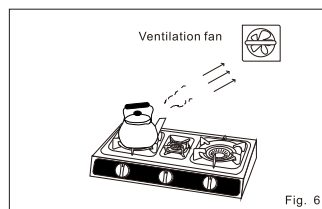

Fig. 6
- Make sure the room is well ventilated. Never use the gas cooker for long periods of time (over 10 minutes) in a small room or in a closed-off space without the ventilation, by the ventilation fan or opening the windows. (Fig. 6)